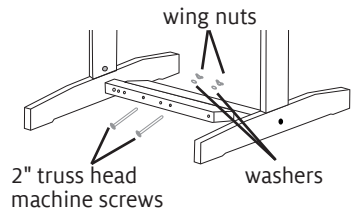

FIGURE 8: SECURE CROSS BRACES
- Keeping the left cross brace in front of the right cross brace, insert 2" truss head machine screws through the cross braces. On the back of the cross braces, place a washer on the screw and secure with a wing nut (Figure 8).